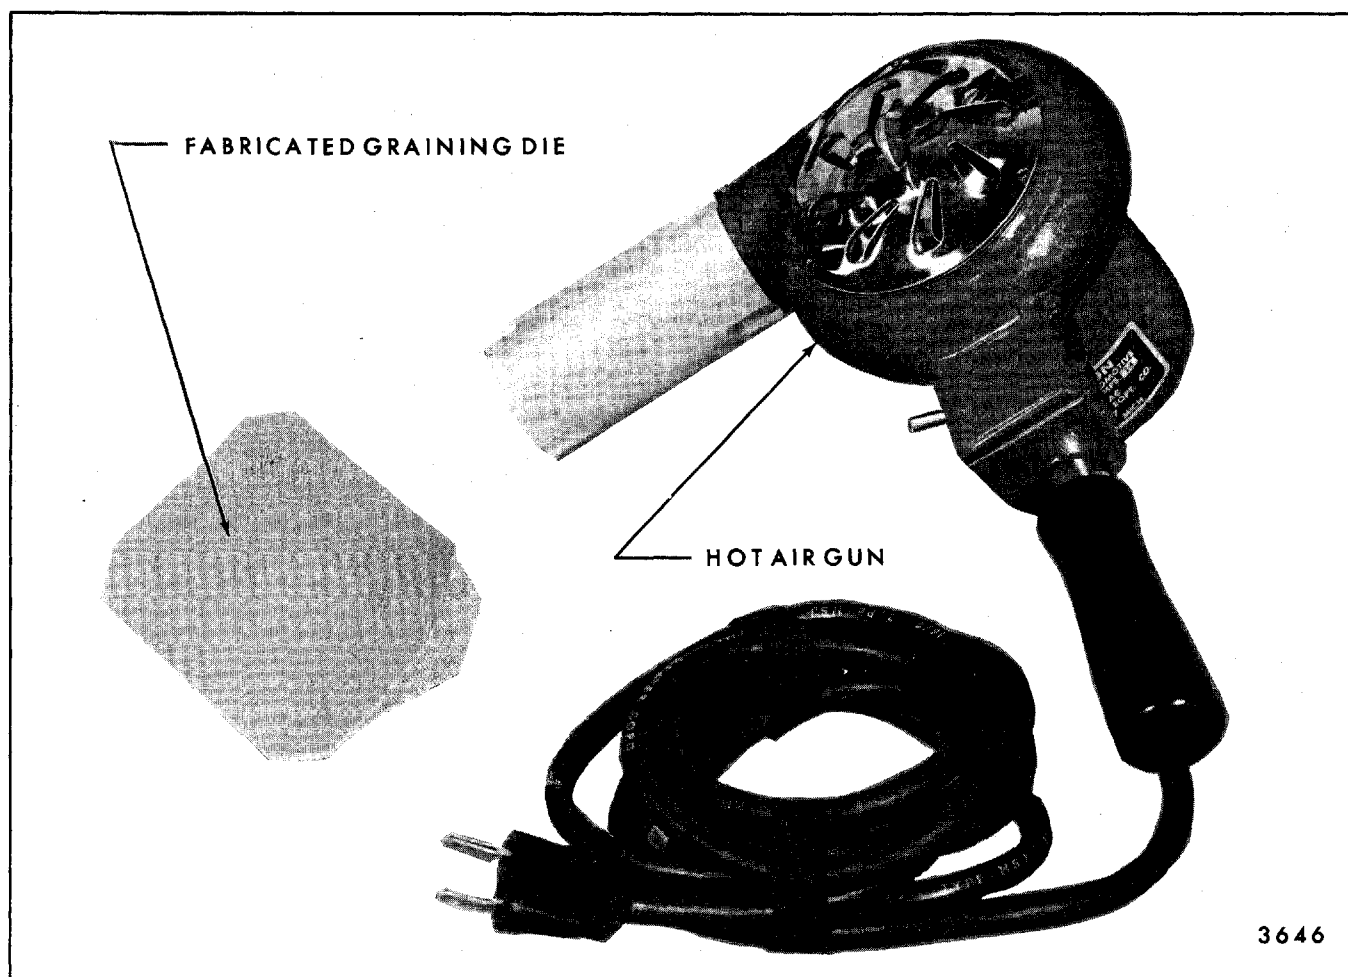

Fig. 8-50-Fabric Roof Cover Repair Die and Hot Air Gun
1. Plastic body filler and hardener - a two-part material for fabricating a graining die with an impression of the grain present in the vinyl surface of the fabric roof cover (see Fig. 8-50).
7. Hot air gun and heat control nozzle - used to cure vinyl patching compound, preferably 500 to 700°F (260 to 371°C) heat range (Figs. 8-50 and 8-52).